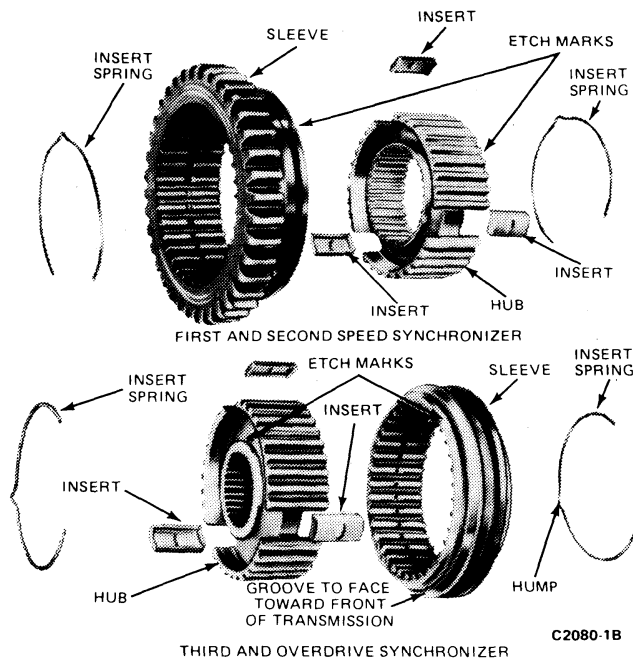

FIG. 19 Synchronizers Disassembled
11. Install the first and second-speed synchronizer (Fig. 19) into the front of the output shaft, making sure that the shift fork groove is toward the rear of the shaft. The first and reverse synchronizer hub is a slip fit on the output shaft. Install the synchronizer hub with the teeth end of the gear facing toward the rear of the shaft.
the synchronizer hub from each synchronizer sleeve (Fig. 19).